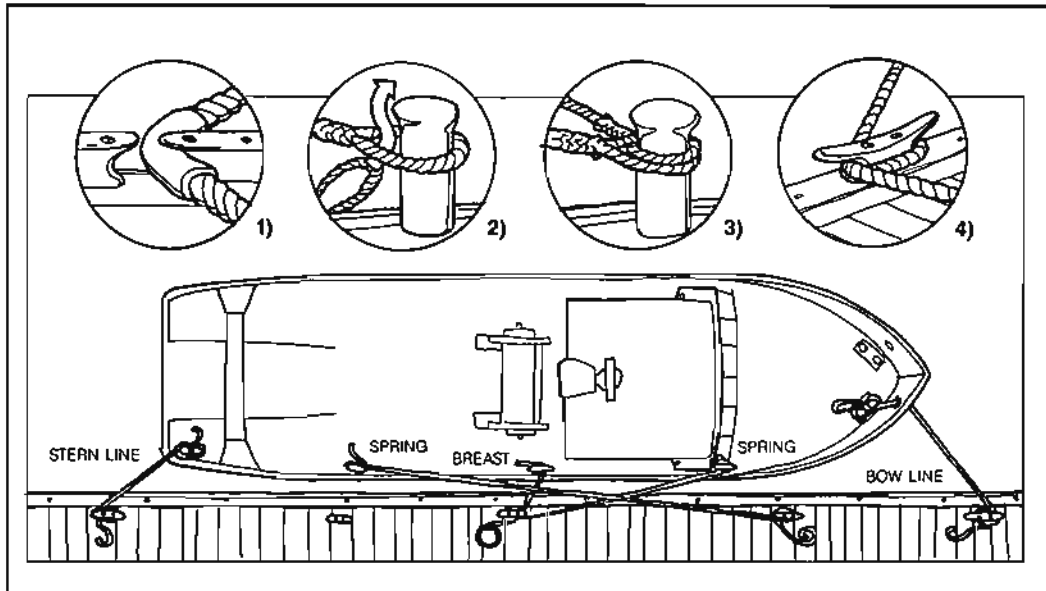

Figure 5-16. Mooring. (1) Use of chafing gear; (2) & (3) Dipping the eye; (4) Snubbing a line on a cleat.
The *bow line* runs through the bullnose or bow chock. The *stern line* runs through after chocks. *Breast lines* may be run perpendicular from the bow, waist or quarter to keep the vessel from moving away from the pier. *Spring lines* may be run from the bow or quarter to eliminate forward or aft movement of the vessel (Figure 5-16(1)).
Avoid extreme bends in mooring lines where they pass through hawse holes or fairleads (use a minimum bending radius of 3 times the diameter of the line to avoid wear or failure.) Use rubber hose or some other material as chafing gear around the bends (Figure 5-16 (1)).
If two bights or eye splices are to be placed over the same bollard, lead the second up and through the eye of the first so that either can be removed independently (Figure 5-16 (2) & (3)).
Never try to hold a vessel without first taking turns on a cleat. Stand well back from the cleat, out of the bight and at 90 degrees (Figure 5-16 (4)).